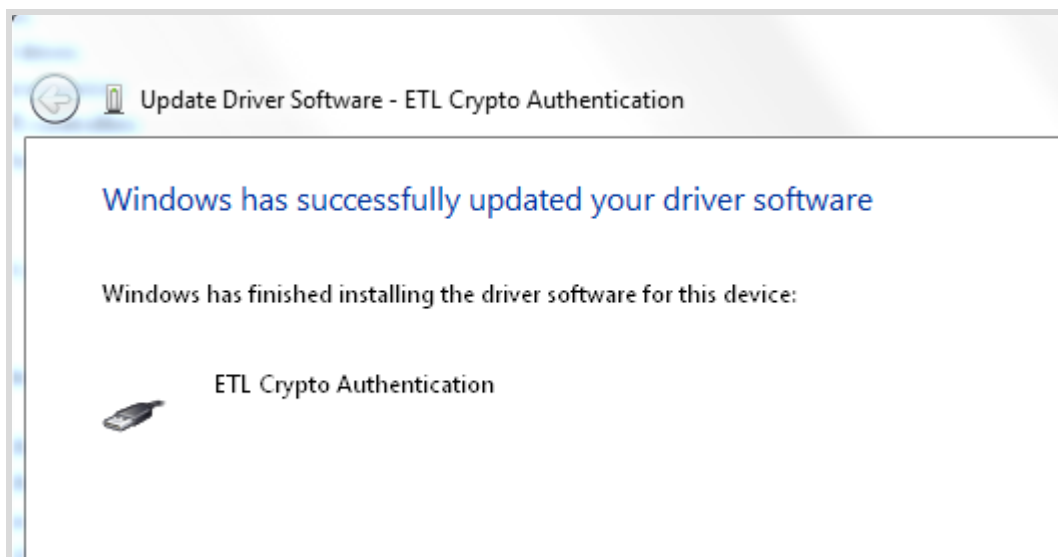

Figure 9. Successful "Update Driver Software " screen
- Wait for the "Update Driver Software" screen to appear (Figure 9)